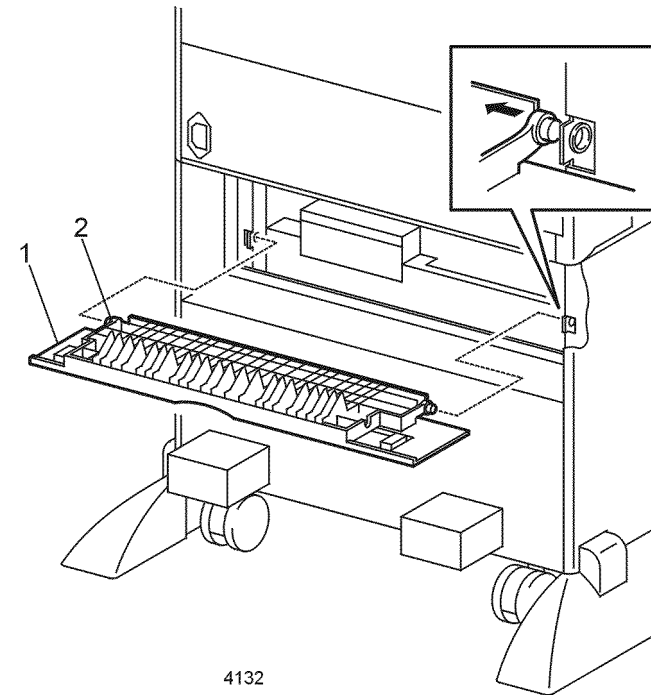

Figure 1 Upper Rear Cover
2. Carefully push in on the left or right bracket to disengage the end of the cover (Figure 1).